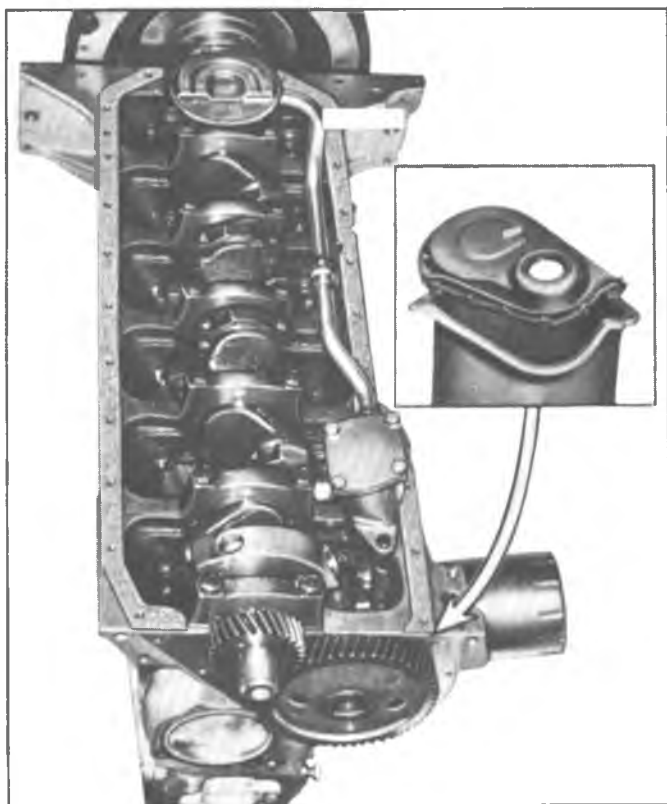

Fig. 9L—Oil Pan Gasket and Seal Location
4. Install new side gaskets on cylinder block (fig. 9L).